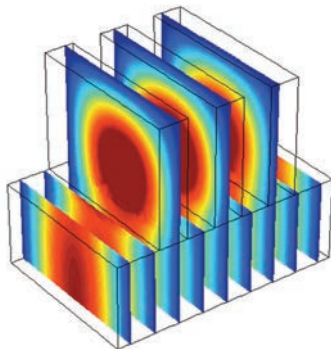

Figure 2. Three Stub Tuner Calculated Field-Distribution Solution.
As can be seen in the calculated field-distribution solution displayed in Figure 2, three (3) stubs have been appended along the length of the waveguide to strive for an optimized performance of the final tuner design. The construction details of this model are presented and discussed in the body of this paper.
analysis of a Three Stub Tuner in the range of 2.2 to 3.3 GHz, the electromagnetic field results of which are shown in Figure 2.
The default plot is a Multislice plot with one plot plane in each of the primary directions (x, y, z). To create the plot shown in Figure 2, Right-Click on the Results > Electric field > Multislice icon and Select Delete.